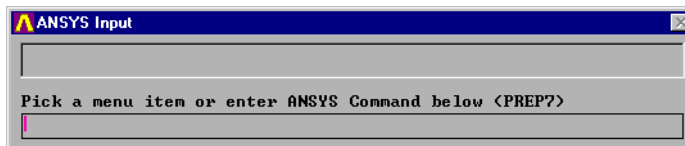

Figure 73: **ANSYS Input** window
- ☒ Set the degree of freedom to **Master Dof** by entering the following command in the **ANSYS Input** window (Figure 73):